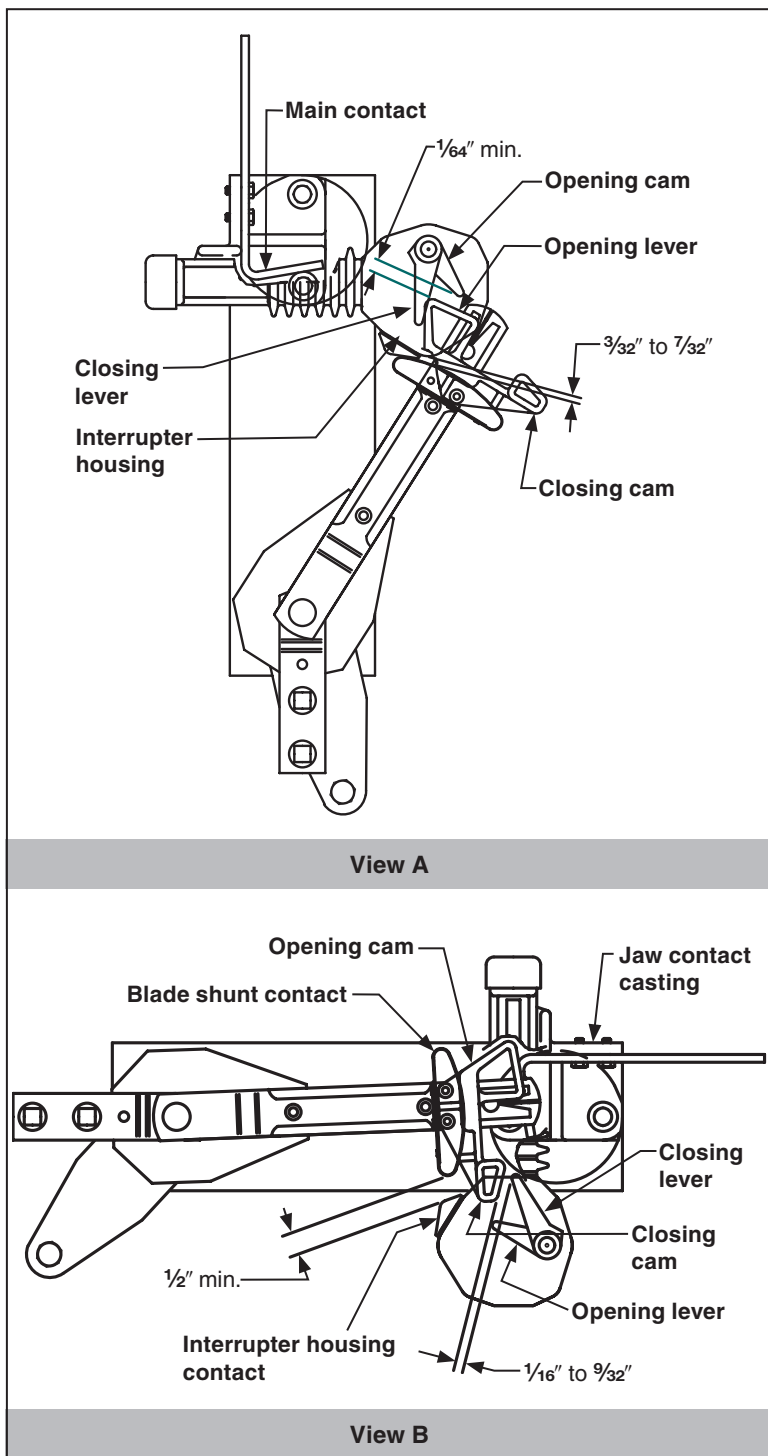

Figure 18. Operating checkpoints for switches rated 14.4 kV.
- Open the switch and place the blade in the position shown in Figure 18, View A. The following conditions should be met:
- f. Slowly close the switch. At the start of the closing stroke, the interrupter housing should be at the distance checked in STEP 12c and should continue to make contact with the shunt contact during the duration of the closing stroke. This will ensure that the shunt contact and interrupter housing contact stay in the circuit long enough for the interrupter to break the circuit during the opening stroke. See Figure 18, View B.